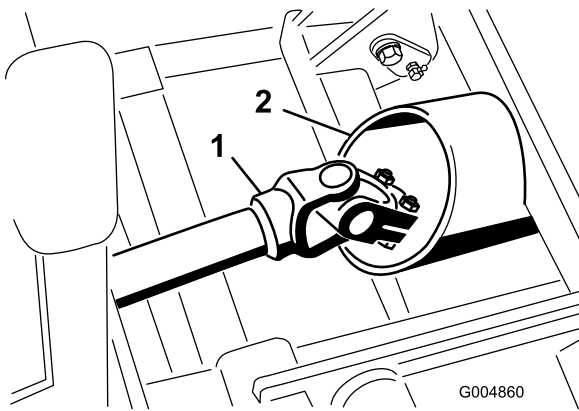

Figure 44
5. Carefully roll the winter frame assembly into position while routing the drive shaft through the frame tube (Figure 44).